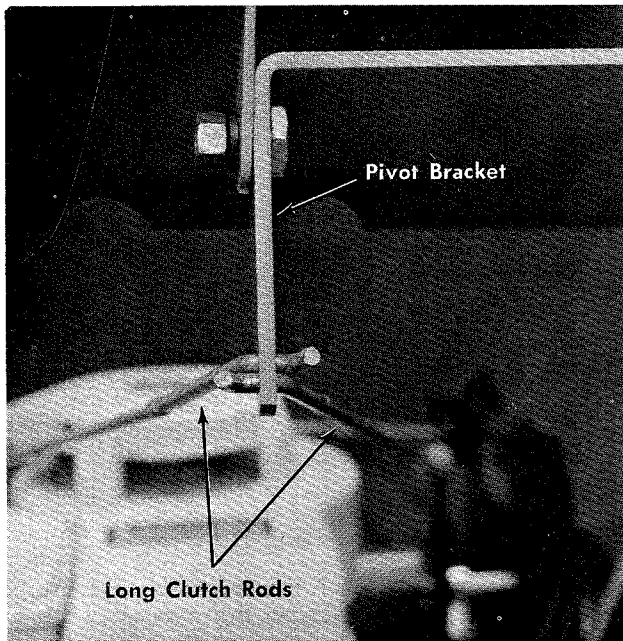

FIGURE 9
15. Assemble the two long clutch rods to the oblong hole on the long side of the pivot bracket. Hook the rods, with the right rod on the bottom, as shown in figure 9.